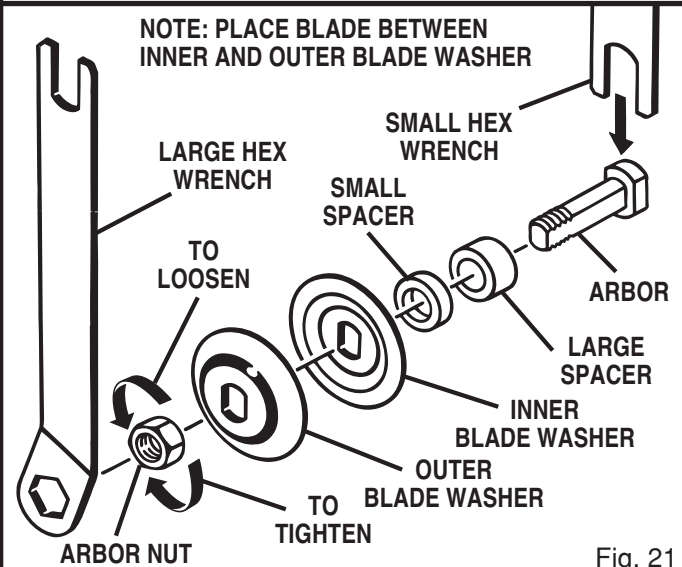

Fig. 21
- Place the open end of the small hex wrench into the slot beside the blade. The wrench will fit over two flats on the arbor (blade shaft). See Figure 21.